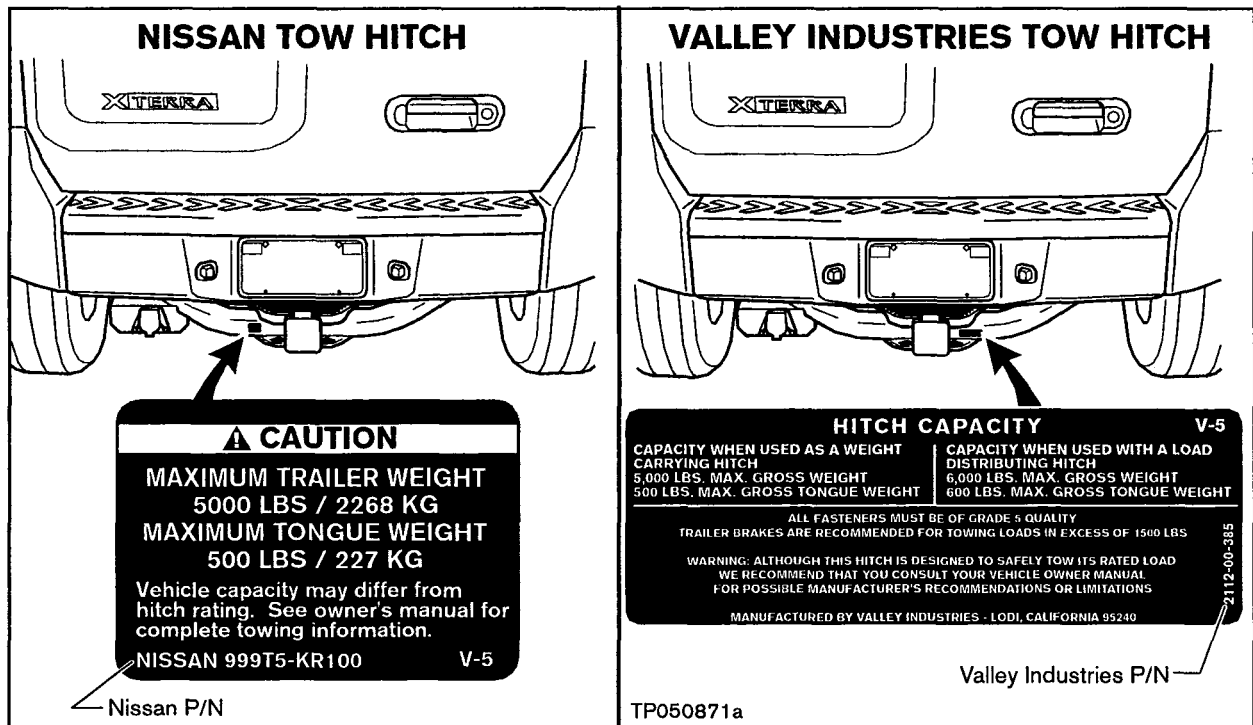

Figure 1
- Affected Tow Hitches have a label with either Nissan P/N 999T5-KR100 or Valley Industries P/N 2112-00-385 printed on it. See Figure 1.
1. Confirm the tow hitch is either a Nissan P/N 999T5-KR100 or a Valley Industries P/N 2112-00-385 (refer to Figure 1 on the previous page).